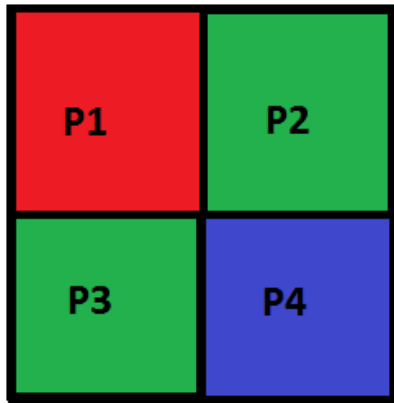

Figure 10.6. Bayer pattern
The nearest neighbor interpolation method is the simplest Bayer demosaicing algorithm. For a Bayer pattern [Bay76] of four neighboring pixels P1 to P4 (see Figure 10.6, 'Bayer pattern') the missing red (R), green (G) and blue (B) colors can be interpolated according to [Ada95]: